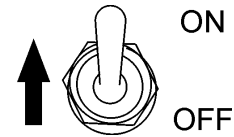

Figure 12. Operation Switch (ON)
4. Place the generator's operation switch (Figure 12) in the **ON** position.